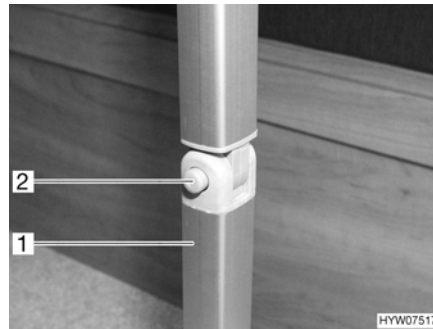

Fig. 24 Suspension table with fold-out leg
- Press the release knob (Fig. 24,2) and hold it down.
- Fold the lower part of the table leg (Fig. 24,1) 90° backwards. The release knob jumps out again.